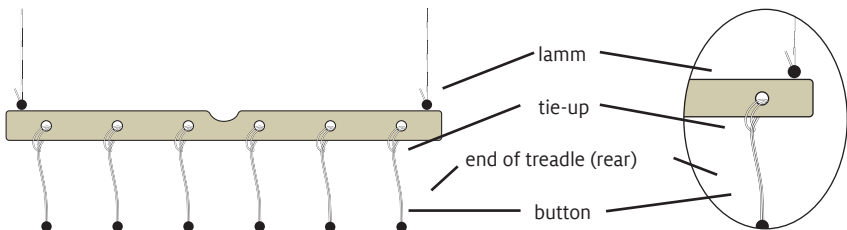

FIGURE 9: INSTALLING TIE-UP CORDS
1. There is one tie-up for each hole in the lamms. Put the loop end of a tie-up through each hole and pull the button end through the loop until the tie-up is secure against the lamm (Figure 9).
2. Tie the lamms to treadles by slipping a tie-up into the slot in the treadle (Figure 9). Work from the front lamm to the rear lamm for each treadle.